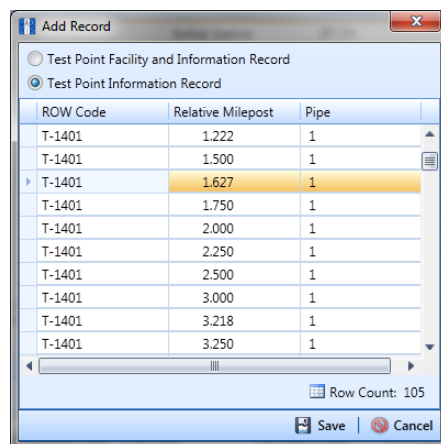

Figure 7-30. Add Record
- Click **Add** to open the *Add Record* dialog box. (Figure 7-30). You can also use the **F4** keyboard shortcut key after selecting the facility record.